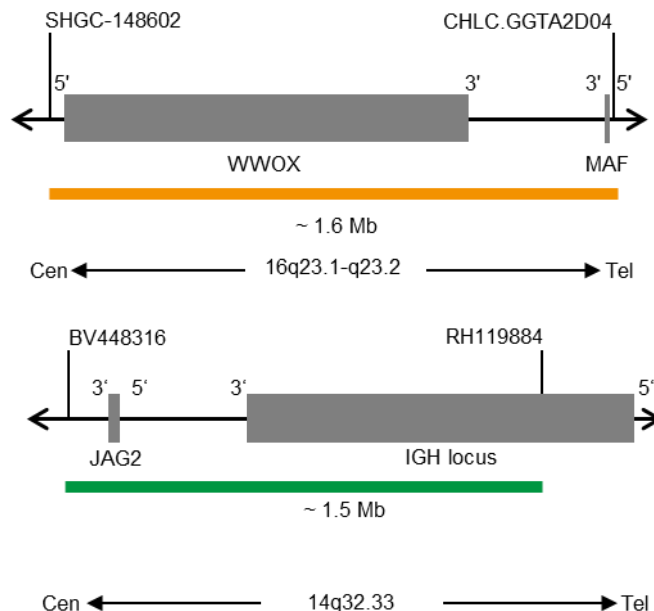

Fig. 1: Top: SPEC MAF Probe map; Bottom: SPEC IGH Probe map (not to scale)
- ZyOrange (excitation 547 nm/emission 572 nm) labeled polynucleotides (~6.0 ng/μl), which target sequences mapping in 16q23.1-q23.2* (chr16:78,089,697-79,657,277) harboring the MAF gene region (see Fig. 1).
- ZyGreen (excitation 503 nm/emission 528 nm) labeled polynucleotides (~12.0 ng/μl), which target sequences mapping in 14q32.33* (chr14:105,462,169-106,995,000) harboring the IGH locus (see Fig. 1).